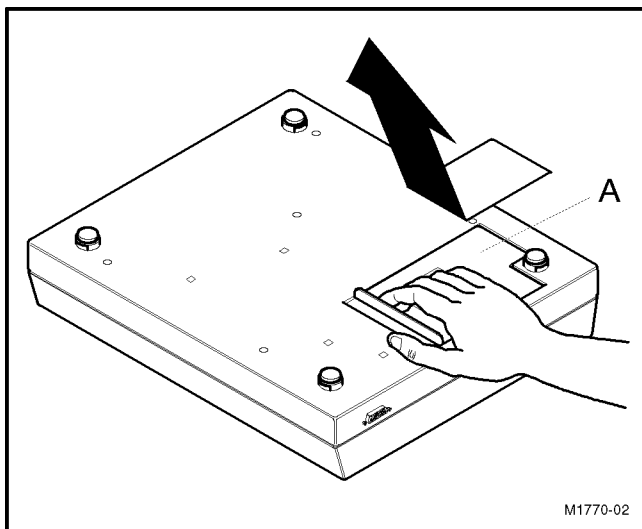

Figure A-2: Removing the Battery Door.
5. Place the battery door into its slots and slide the door in the opposite direction of the arrow shown in Figure A-2 until it latches.
3. Slide the battery door in the direction of the arrow shown in Figure A-2 until it unlatches (approximately 1/2 inch). Lift off the door.
6. If the battery has been removed for storage, replace the battery cover by placing the battery door into its slots and sliding the door in the opposite direction of the arrow shown in Figure A-2 until it latches.